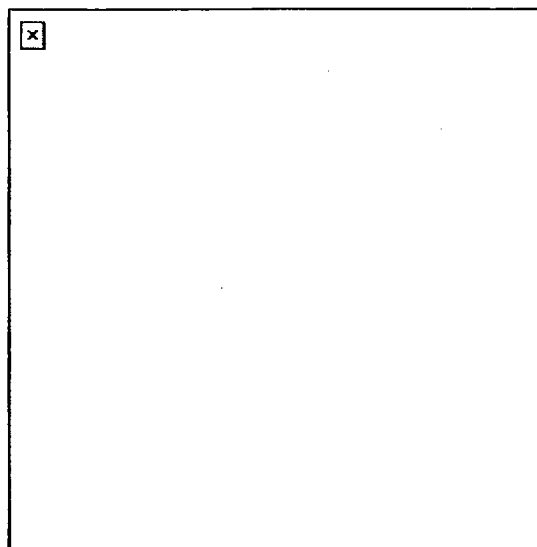

Figure 6. Reinforced loopholes.
- (3) Use sandbags or other material to reinforce the walls around loopholes (Figure 6).